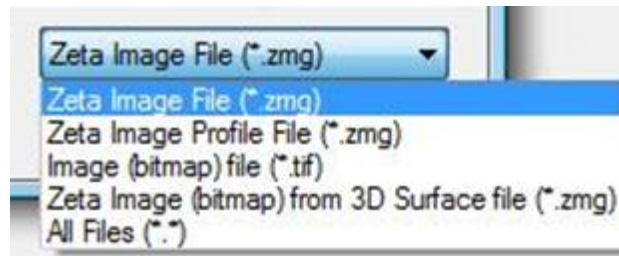

Fig. 19. Options for opening image files
3. Choose an option from the *Save as Type* list, as shown in Fig. 19. There are three options for opening *.zmg files. These options control the appearance of the screen when the file is opened, but do not change the underlying raw data. "Zeta Image File" displays a 3D image window, "Zeta Image Profile File" displays a default step height analysis window, and "Zeta Image (bitmap) from 3D Surface file" displays a 2D image window.